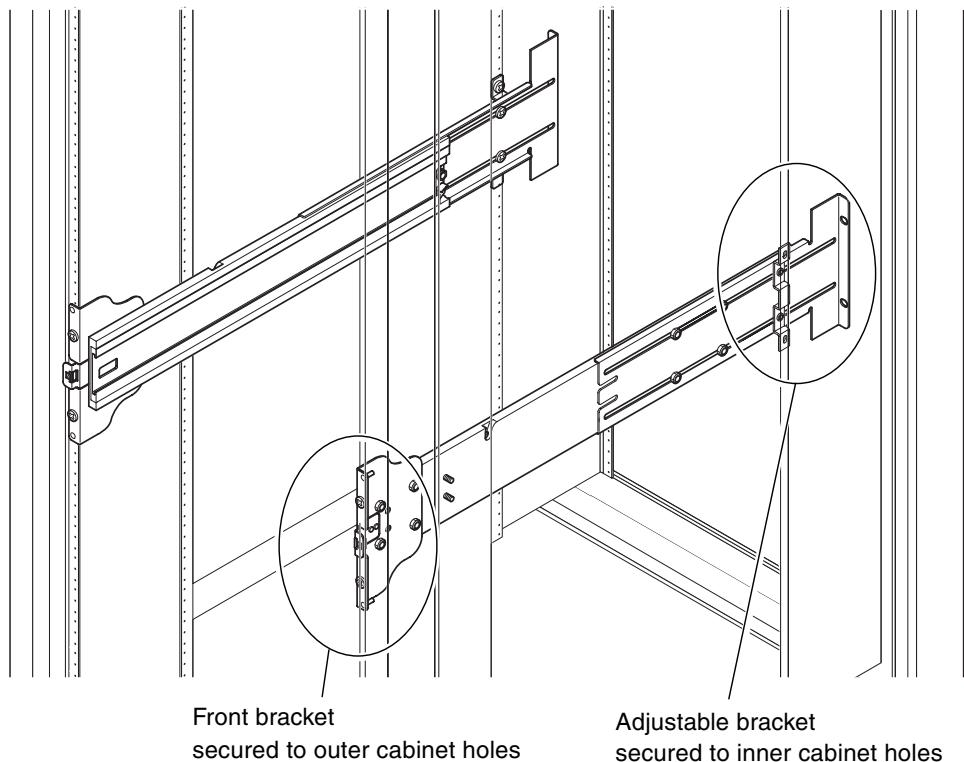

FIGURE 1-4 Installing the Rails in a Sun Fire Cabinet
1. Insert the pins in the front bracket into cabinet holes 22 and 33 (FIGURE 1-4).
1. Insert the pins in the front bracket into cabinet holes 58 and 69 (FIGURE 1-4).